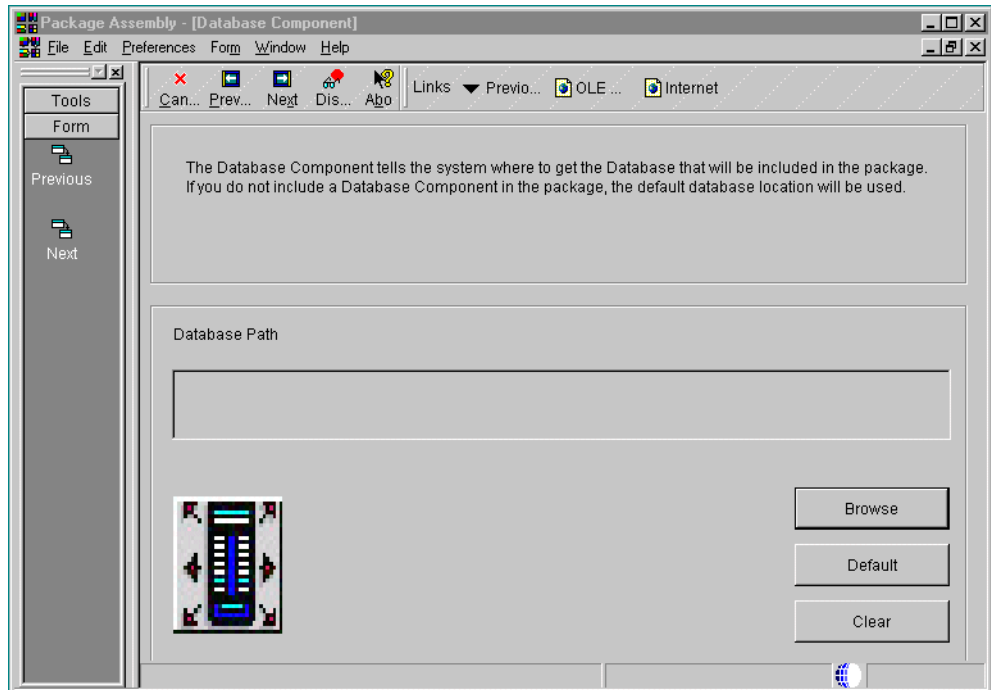

Figure 146. Database Component form
7. Click **Next**. The Database Component form appears (Figure 146).